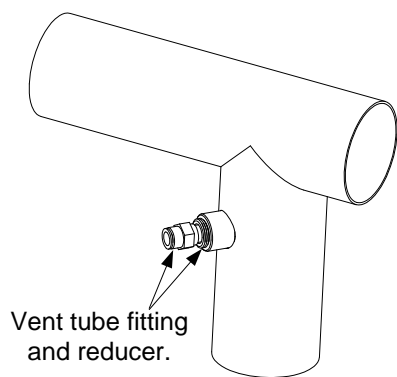

Figure 2: Remove fittings from existing drain dump.
6. Disconnect the vent tube from the rear of the drain dump tube section. See Figure 2.
7. Remove and discard the existing vent tube fitting and reducer from the drain dump tube section. See Figure 2.